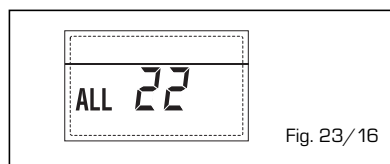

Fig. 23/16
- **ANOMALIA GUASTO SONDA MANDATA SECONDA ZONA MISCELATA "ALL 23" (fig. 23/17)**